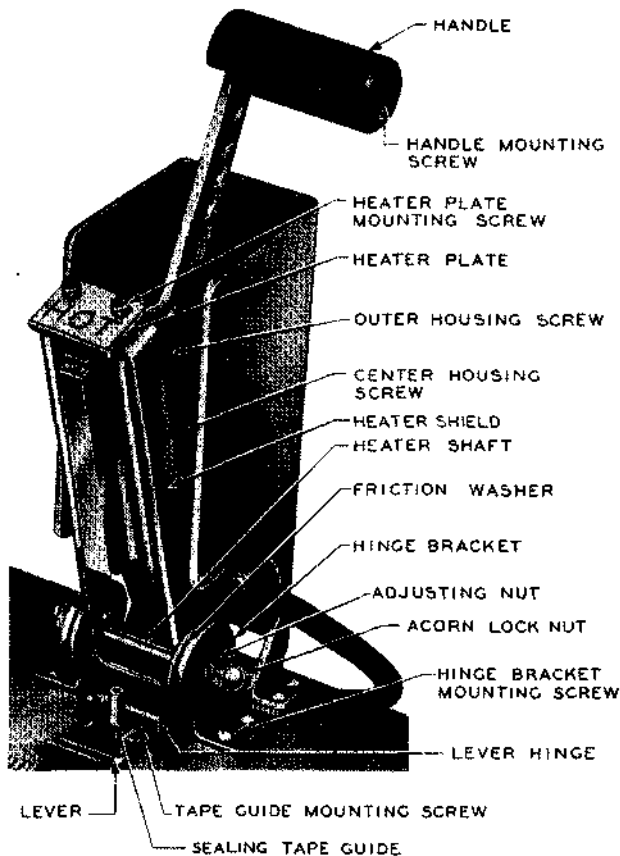

Fig. 7--Heater and Tape Guide Assembly
**3.10 Hinge Bracket or Friction Washer:** (Fig. 7)—Bring the heater down on the anvil, and remove the hinge bracket mounting screws with the 3-inch **C** screwdriver. Remove one acorn locknut and adjusting nut with one 417A wrench while holding the other acorn locknut with the other 417A wrench and remove the washer. Replace the hinge bracket or friction washer as required. Reassemble the parts and tighten the screws and acorn locknuts securely.
**3.11 Heater Shaft:** (Fig. 7)—Loosen the cleat mounting screws at the rear of the base with the 3-inch **C** screwdriver. Bring the heater down on the anvil and remove both brackets and friction washers as covered in 3.10. Grasp one
**3.12 Heater Shield:** (Fig. 7)—Remove the heater housing, terminal bracket, and shaft as covered in 3.08, 3.09, and 3.11, respectively. Remove the handle mounting screw with the 4-inch **E** screwdriver and remove the handle. Remove the heater plate by removing the heater plate mounting screws with the R-2670 wrench. Replace the heater shield, and reassemble the parts.
**3.17 Sealing Tape Guide or Lever:** (Fig. 7)—Remove the splicer (except the 604E) from its mounting as covered in 3.05. Remove the tape guide mounting screws and nuts with the 3-inch  $\blacklozenge$ C $\blacklozenge$  screwdriver and 417A wrench. Replace the tape guide or lever, as required, and reassemble the parts. Remount the splicer if it was removed.